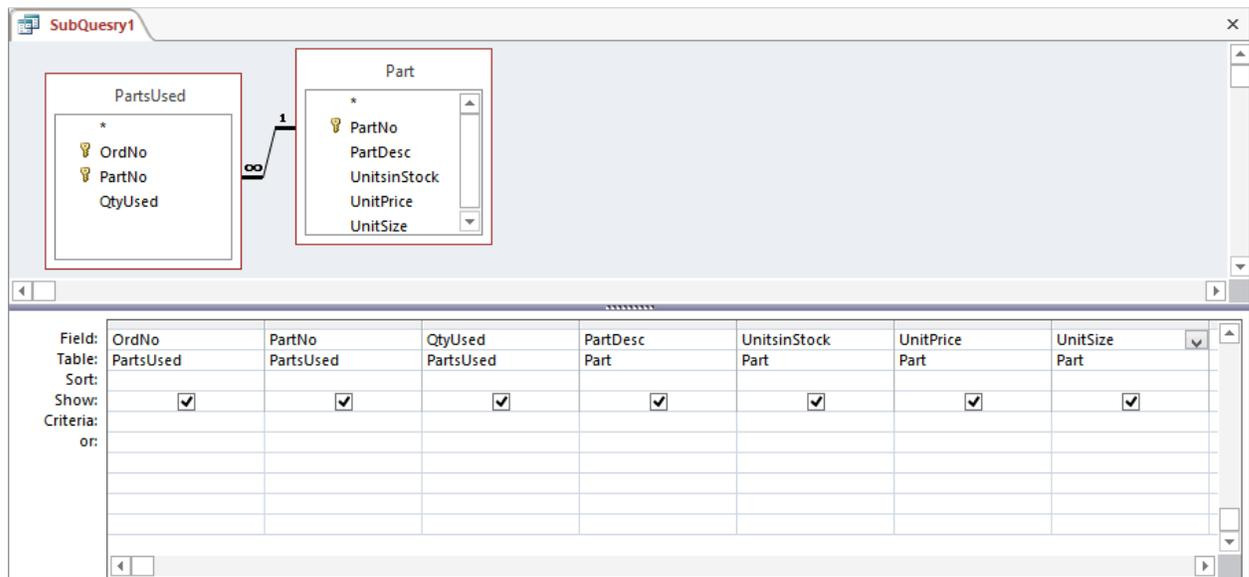

Figure 9: Query Design Window for *SubQuery1*
5. **Formulate the Query:** In the Query Design window, formulate a query as shown in Figure 9. Follow these tips to formulate the query.